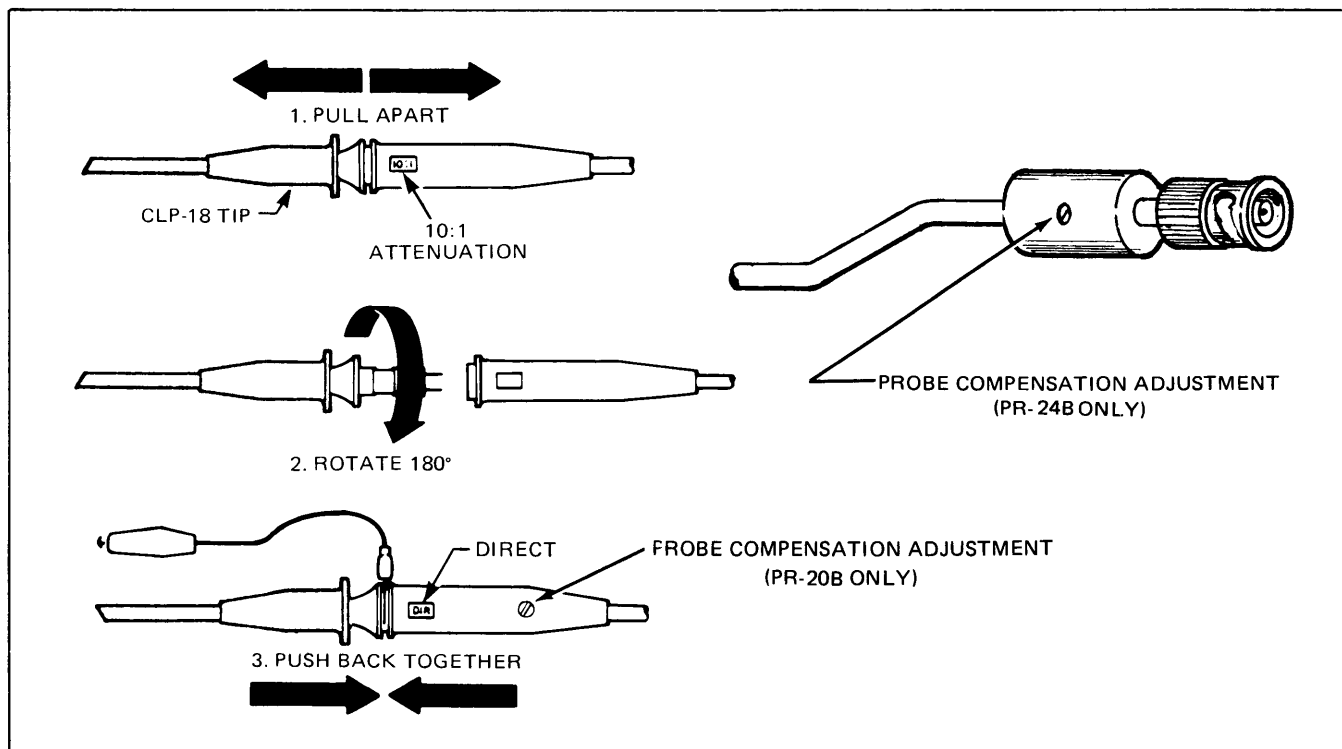

Fig. 3. Probe details.
26. **Probe** (See Fig. 3). The B & K-Precision Model PR-20B and PR-24B combination 10:1/Direct probes have been designed for use with this oscilloscope. However, any
2. For all except low-amplitude waveforms, the probes are set for 10:1 attenuation. For low-amplitude waveforms (below 0.5 volt peak-to-peak), set the probe for DIRECT. See Fig. 3 for changing the probes from 10:1 to DIRECT, or vice versa. The probe has a 10 megohm input impedance with only 18 pF shunt capacitance in
3. If the recommended B & K-Precision Model PR-20B or PR-24B oscilloscope probes are used, 10:1 attenuation should be used except for waveforms of 0.5 volt peak-to-peak or less. For the lower amplitude waveforms the DIRECT position should be used. See Fig. 3 for changing the probe from 10:1 to DIR or vice versa. Whenever possible, use the high impedance, low capacity 10:1 position to minimize circuit loading.